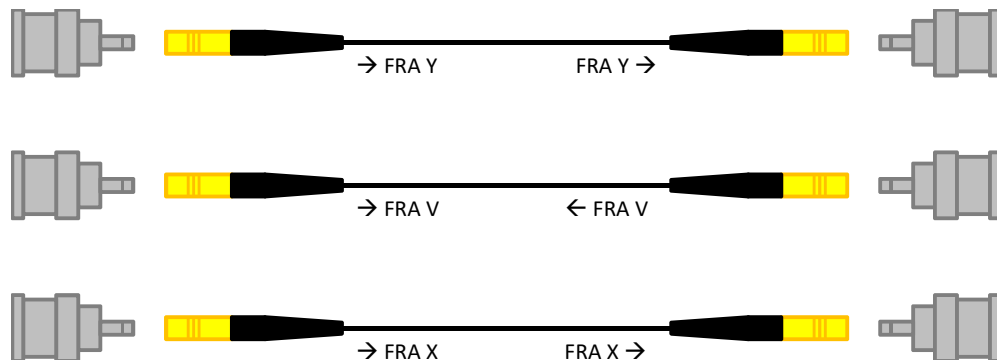

Figure 2 – Configuration of the SMB cables used in combination with the FRA2 module
- For the FRA2 module, the cables must be fitted with SMB to BNC adaptors on both ends (see Figure 2).